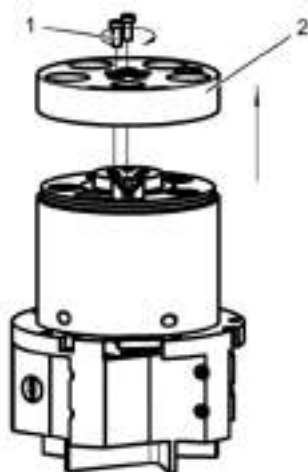

Fig.71: Loosening the screws
1. Loosen and remove the two inside screws (Fig. 71 /1) from the cover (Fig. 71 /2).